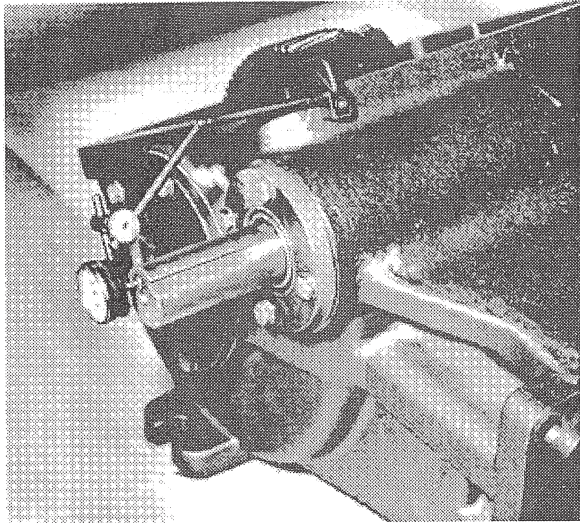

Fig. 12
6. Install left bearing/seal cap with one .015" thick and one .003" thick shim and tighten the eight screws to the recommended torque. Rotate the pinion shaft back and forth and apply about 15 lbs. of axial force to properly seat the tapered roller bearings. Measure the end play by using a dial indicator in the manner shown in Figure 12.